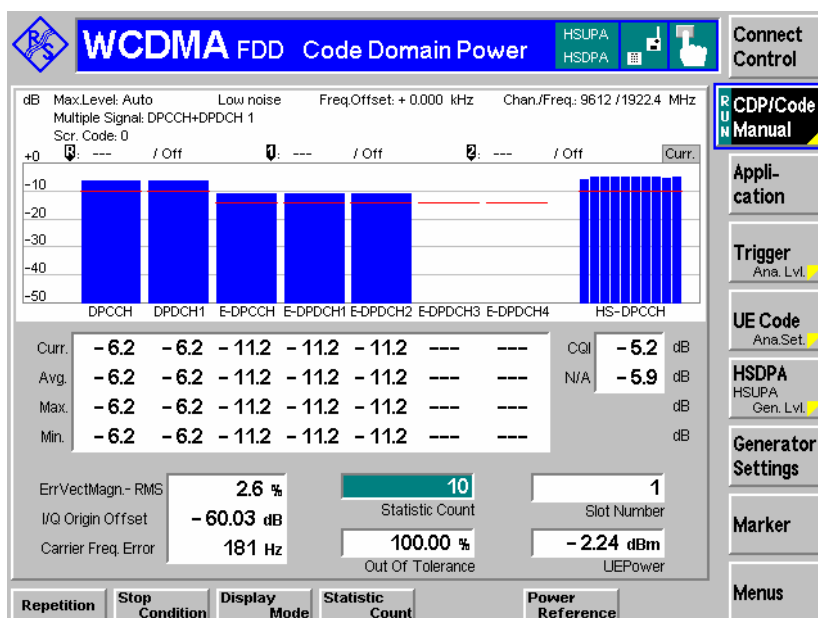

Fig. 8-39 UL HSUPA channels in CDP
- To obtain the results shown in Fig. 8-39 above configure the R&S CMU as follows: